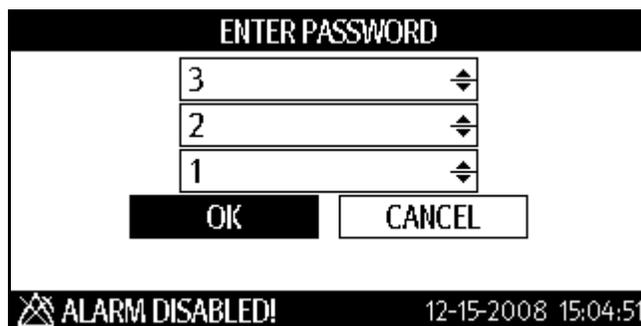

FIGURE 6-17 ENTER PASSWORD dialog
6. Once **USER MAINTENANCE** is highlighted, press  to display the Enter Password dialog, as shown in FIGURE 6-17.